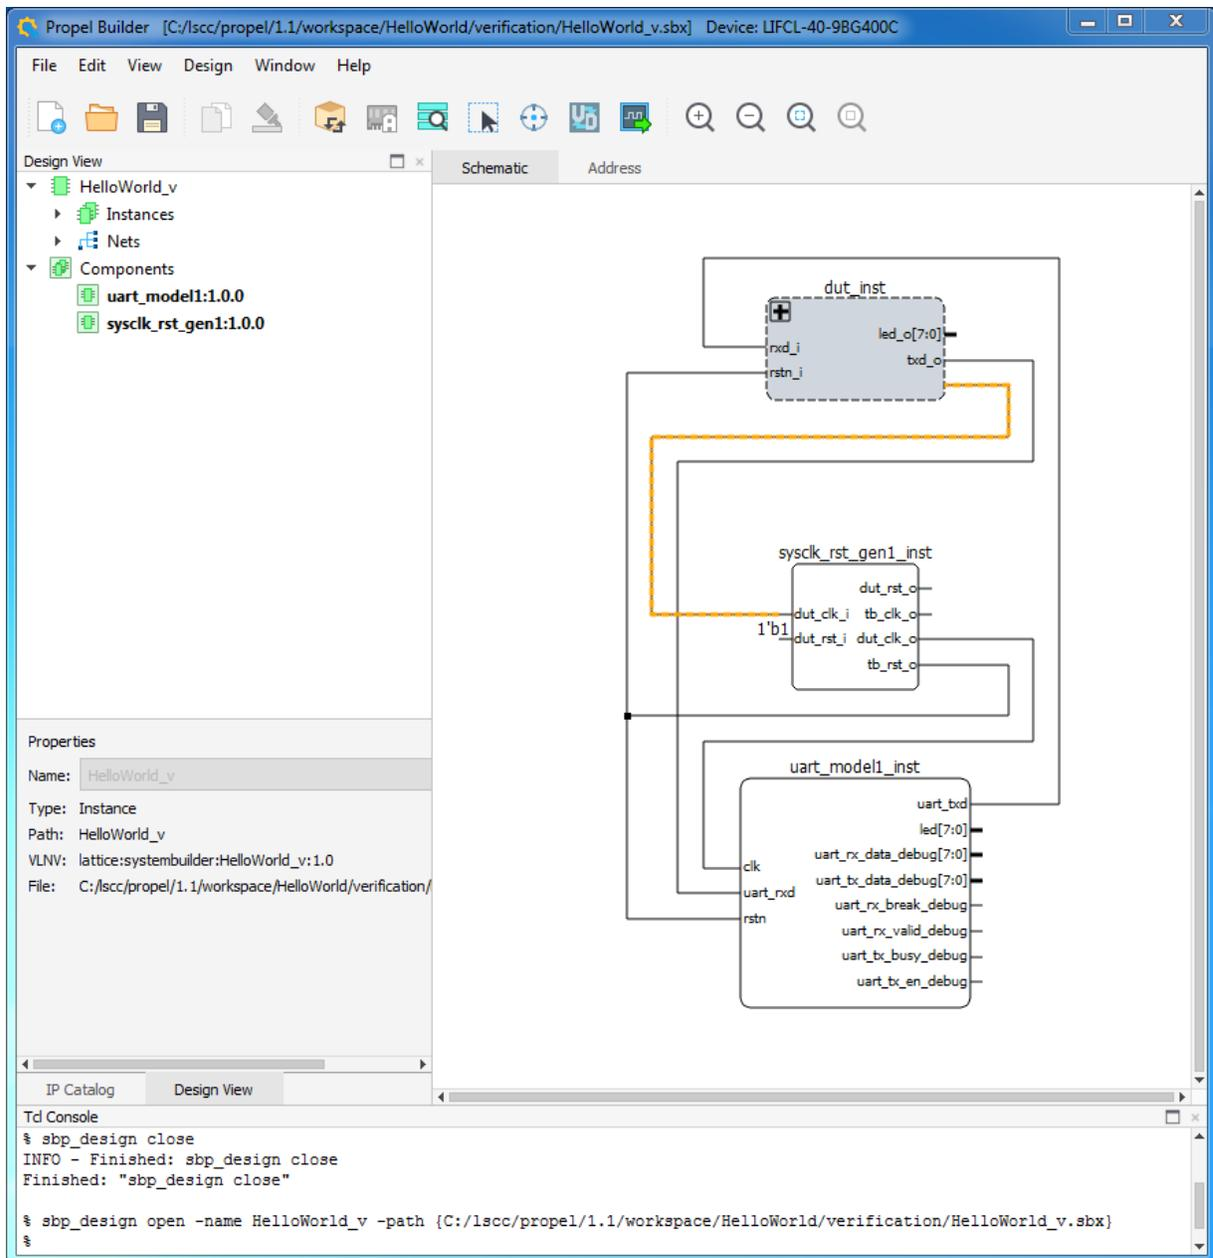

Figure 2.56. Switching to Project Verification
3. Click **Yes** button at Propel Builder dialog box. The Propel Builder GUI switches to verifying the project (Figure 2.56).